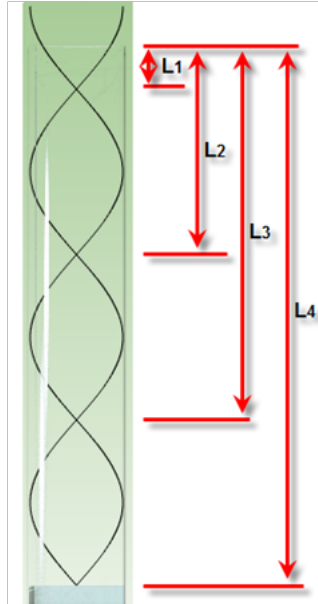

Figure 3
- 1 We'll continue with the same conditions—room thermostat set to 0°C, air in the tube, C4 selected, and the wave display set for a node at about 17 cm as in Figure 2. Turn the volume on so you can hear the sound. Drag the reservoir as far down as it will go. As the air column lengthens, you should hear three more pulses of maximum loudness. Each of these indicates air column lengths that satisfy our two boundary conditions. That is, they indicate additional nodes. See Figure 3.
If we label the locations of the four nodal points as shown in Figure 3, we can calculate the wavelength of our sound waves in a number of ways. In equations 2–4, each λ represents a calculation of the wavelength of our sound wave.